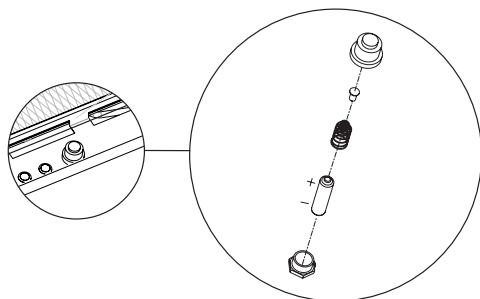

Figure 25
4. Unscrew the igniter button and install the AA battery provided in the instruction envelope prior to closing the control door. See Figure 25.